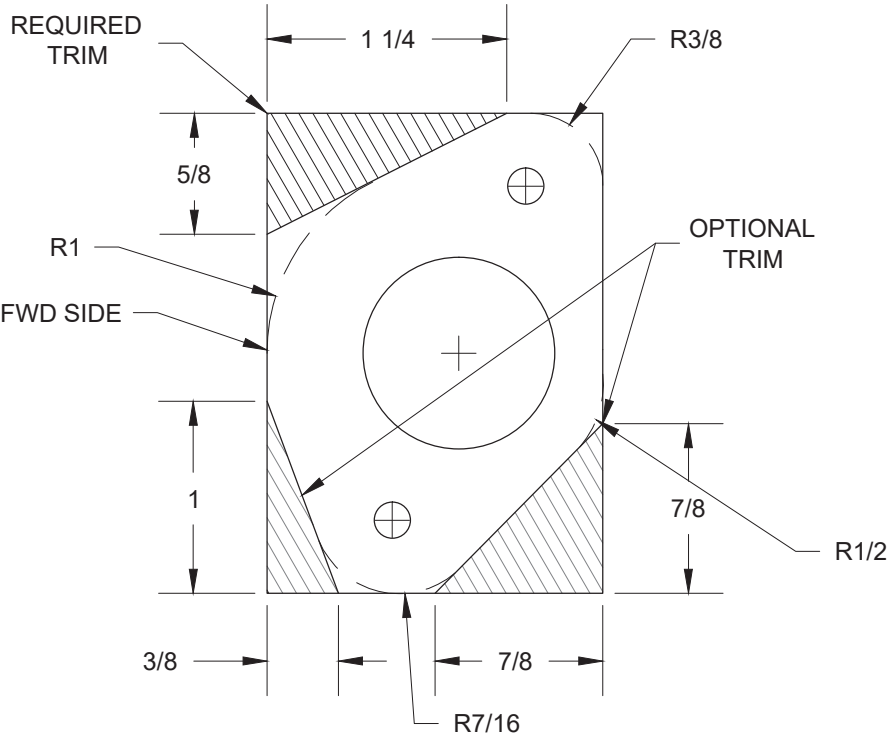

FIGURE 2: OPTIONAL TRIM OF UHMW BUSHING
Step 4: Trim the four **F-1030** UHMW Bushings as per the callouts in Figure 2. Only one area **must** be trimmed for clearance while the other two areas are optional for a small weight reduction. It is acceptable to radius the corners of the UHMW bushings approximately as shown in Figure 2.